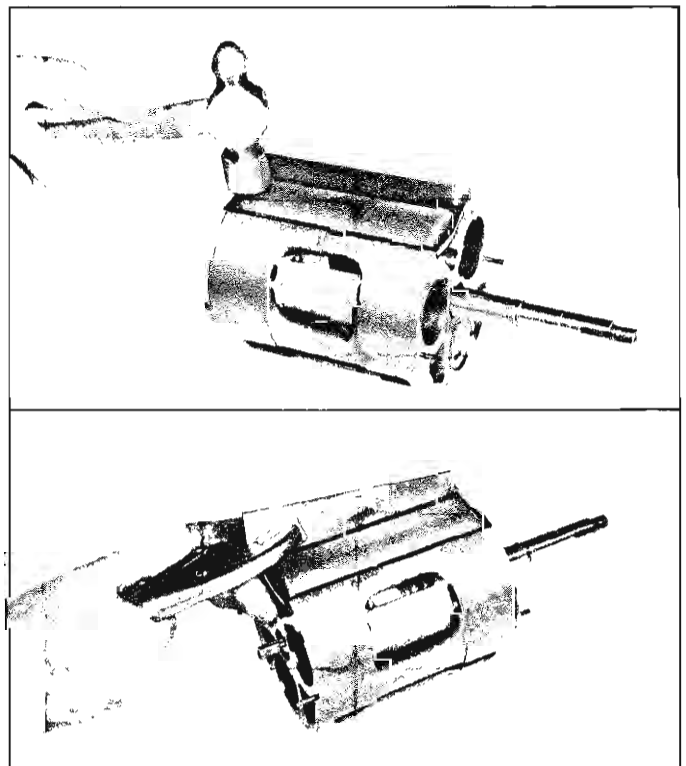

Fig. 36—Installing Suction Crossover Cover
12. Assemble a new rectangular gasket to the suction crossover cover. Coat the gasket with clean refrigeration oil. Start one side of the gasket and cover into the "dove tail" slot in the cylinder, centering the gasket and cover with the ends of the cylinder faces. Use Tool J-9433 or a flat piece of spring steel (.015" to .020" thickness) as shoe horn (fig. 36) and press or tap the cover into place. Remove the piece of sheet metal with a pair of vice grip pliers, using a "prying-up" motion, with the pliers resting on